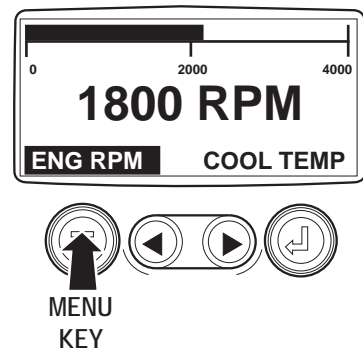

Figure 10 – 1-Up Display
1. Once the engine has been started and the keyswitch is turned to RUN, the rpm Engine Parameter is displayed. See Figure 10.